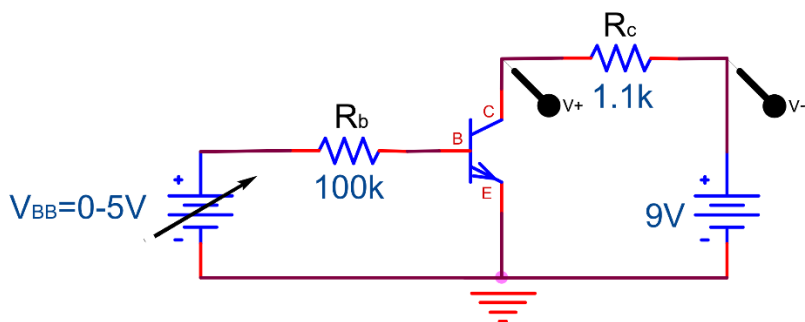

Figure 5.1
1. Construct the circuit in figure 5.1. Measure the voltage across the collector resistor, R_C . Because a $1.1\text{ k}\Omega$ resistor is used, the voltage will be the collector current, I_c , in milliamperes. Adjust the $5V$ (V_{BB}) supply to obtain collector currents close to the values specified in the table below. Measure the voltage across the base resistor, R_b . Use this value to determine the value of the base current I_b .